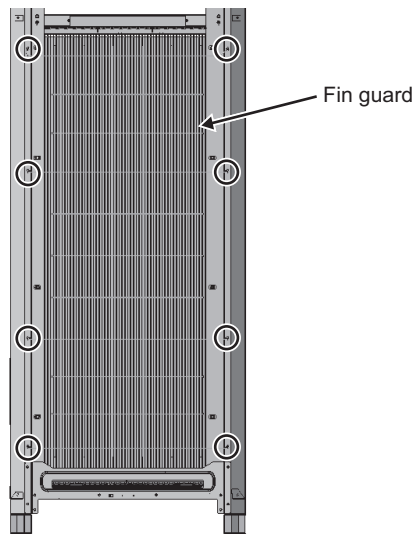

Fig. 88
(12) If the unit comes with fin guards, remove them. (Eight screws on the left and right: Fig. 88)